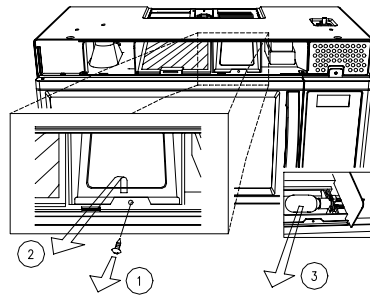

FIGURE 4
3. Remove a screw (①) for lamp cover. (See Figure 4.)
4. Pull out the Lamp cover. (See Figure 4.)
7. Replace lamp cover and secure it with the screw (①).